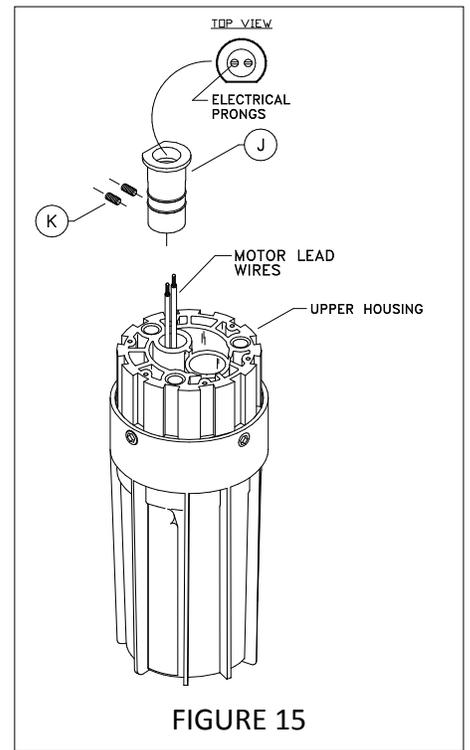

FIGURE 15
10. Connect the Receptacle (Cable Adapter J) (Fig. 15)